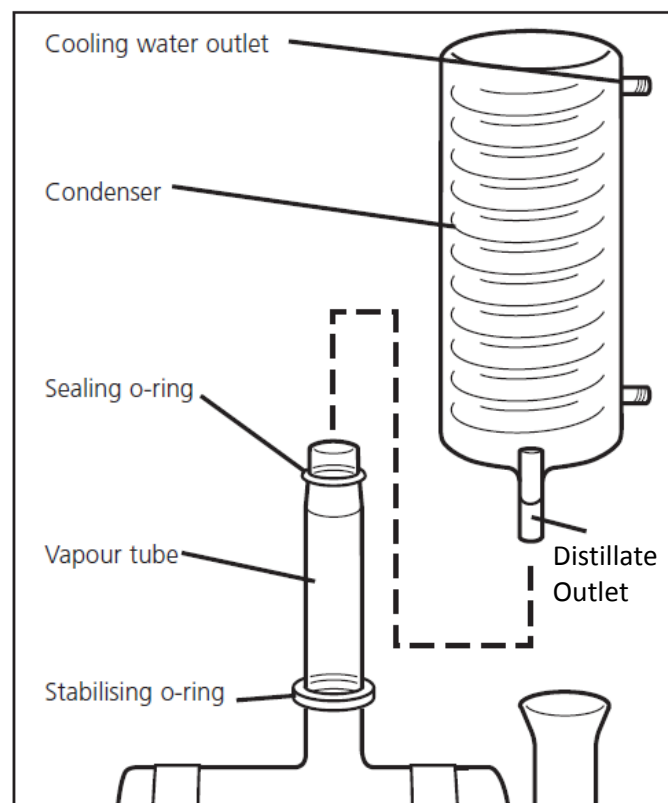

Fig. 4
7. Ensure the Sealing O Ring and Stabilising O Ring are correctly positioned, as shown in Fig. 4.
9. Fit the condenser by mounting it onto the vapour tube of the boiler. Ensure the distillate outlet tube of the condenser faces the front and the cooling water outlet faces parallel to the unit as Fig. 4. When resistance is felt, push down slightly to create a seal until there is approximately a 5 – 10mm gap between the condenser and the boiler.